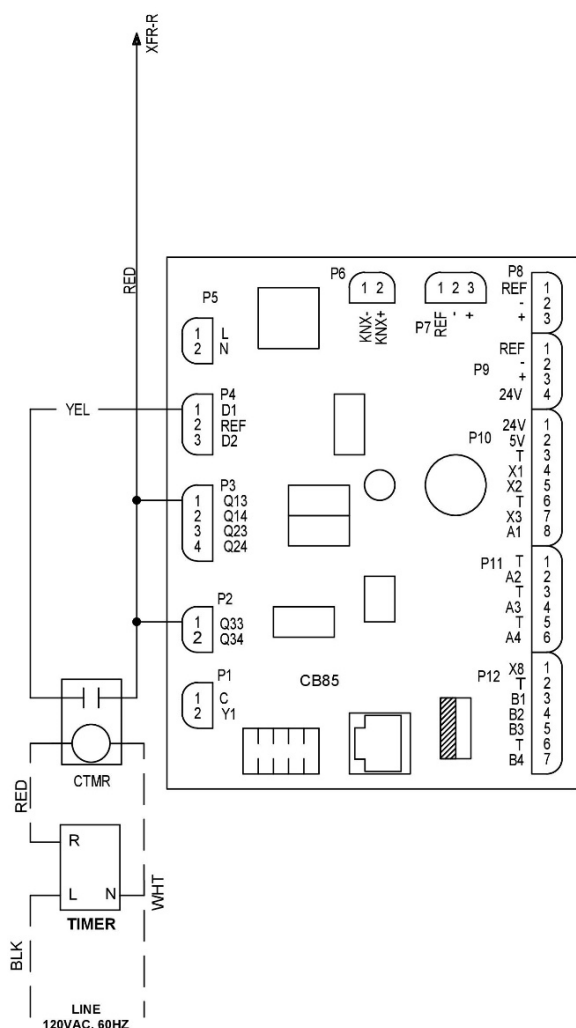

Figure 26 - Version 2 (120V Digital Timer Connection)
6. **FIGURE 26 - Version 2 (120V Digital Timer Connection)).**